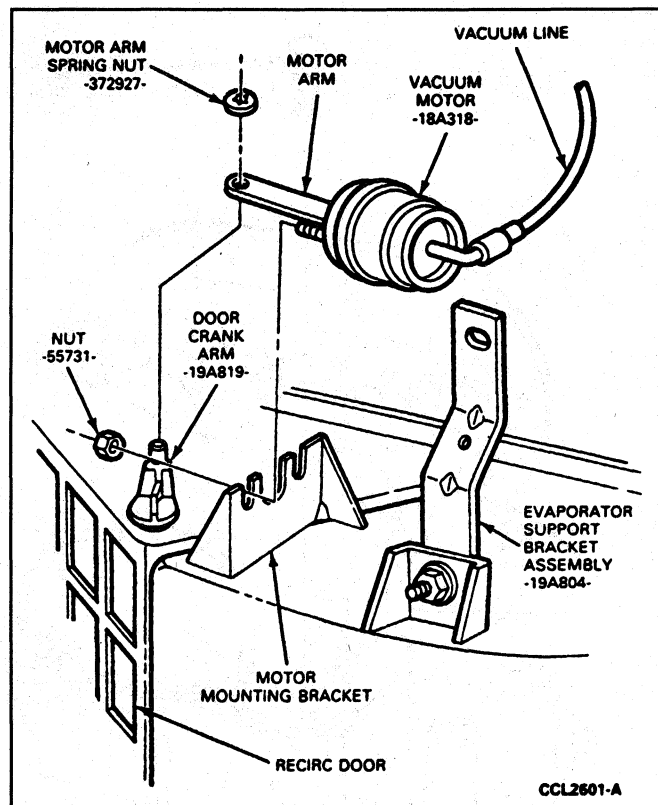

FIG. 27 Motor Arm Retainer and Screw Removal
3. Remove motor arm retainer from door crank arm (Fig. 27).
2. Disconnect vacuum hose from retaining tab on upper surface of instrument panel register duct assembly (Fig. 27).
4. Remove screw retaining defroster nozzle to plenum (Fig. 27).